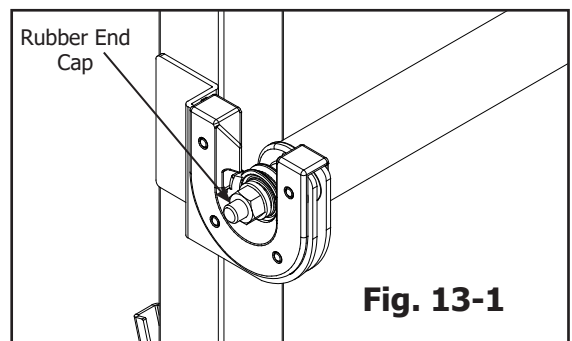

Fig. 13-1
13-1: Slide one (1) rubber end cap onto the end of each bolt sticking out of the pole ends (Fig. 13-1). If the poles are assembled properly, there should be approximately 3/8 – 1/2-inch of bolt metal threads showing beyond the ends of each pole.